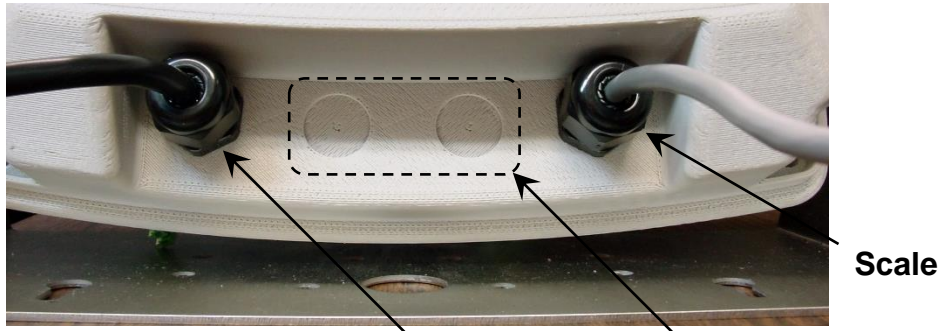

Figure No. 2
- 3.3.2. Referring to Figure No. 2, choose a gland connector for the load cell cable and loosen it.
- 3.6.1. Loosen the 4 Captive screws securing the rear housing to the front housing assembly and then loosen a gland connector for the serial cable. Refer to Figure No. 2 for an illustration of the connector layout.